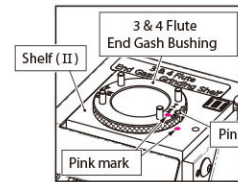

Fig. 7-2
- ### 2. End Gash Grinding Shelf (II) (Fig. 7-2) Insert 3 & 4 Flute End Gash Bushing into the Shelf (II), align No.(I - II) of the bushing to the pin on the shelf, then insert it to the end.